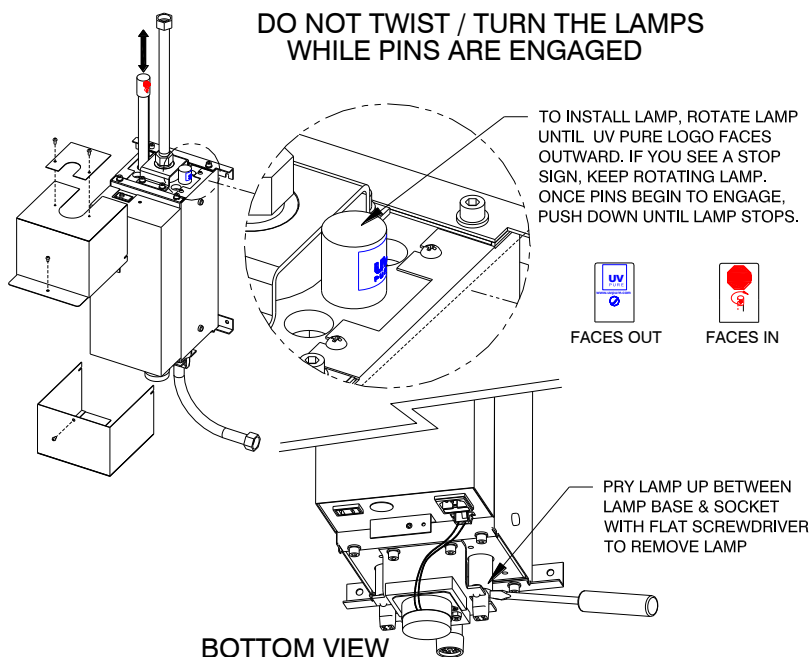

Figure 3
The lamps can be replaced in a few minutes. Draining the unit is not required. See Figure 3.
Step 3: Slowly lift the old lamps out of the unit. **Do not twist the lamps when they are installed.** For assistance in this task, use a flat screwdriver and pry the lamps between their base and the socket to disengage the pins (see Figure 3). Dispose of the old lamps in the same way as you would dispose of ordinary fluorescent tubes. Note that old lamps should be disposed of at a household waste management depot or transfer station; contact your local recycling and waste management authority for proper disposal procedures in your area.
Step 4: Install the new lamps into the unit, being careful not to touch the bulb. **Ensure that the lamps are aligned with the "Stop Sign" printed on the top ceramic facing inward (towards quartz sleeve).** If you can see the stop sign, the lamps are backward (See Figure 3).